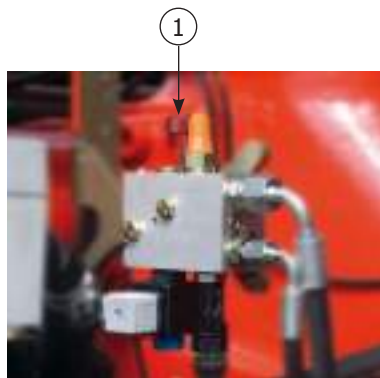
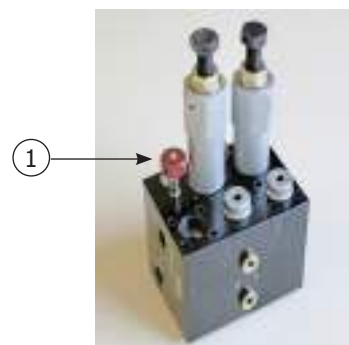

Fig. 11.3
Fig. 11.4
- version A: fig. 11.3 or fig. 11.4 - position 1
Version A: remove the safety seal and turn the tap (fig. 11.3 or fig. 11.4 - position 1) clockwise.